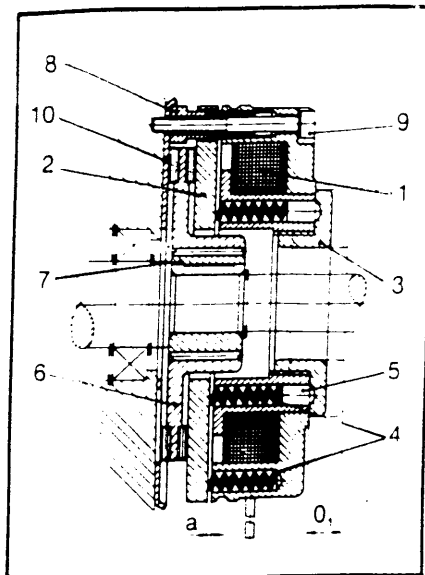
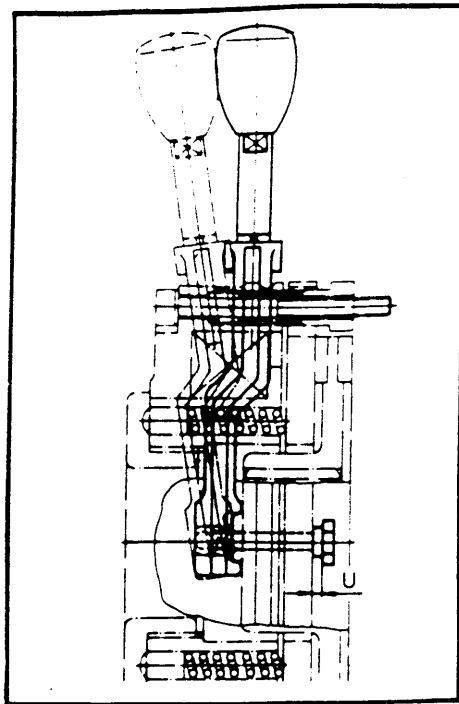

FIGURE 1
FIGURE 3
The Lenze Electromagnetic Release, Spring Set Brake - Type 14.448, as shown in Figure 1, produces its stopping torque by the use of multiple springs (4) exerting pressure against the armature plate (2). The armature plate, in turn, is forced towards the friction plate (8) (or mounting flange (10)) compressing the dual faced friction rotor (6) between the armature plate and the friction plate (or mounting flange). Figure 1 illustrates the position of the armature plate, friction rotor and friction plate in the set position. The rotor is internally splined to the hub (7) which is keyed to the shaft.
8. If necessary, you can check the air gap with a feeler gauge in 3 positions. (NOTE: Air gap dimension is illustrated in Figure 1 denoted by "a").
9. If air gap adjustment is necessary, loosen bolts (9A), rotate the adjustment tubes (8) approximately 1/4 turn, retighten bolts (9A), and measure air gap. If air gap is not within tolerance, repeat procedure.
10. Set the hand release gap (Dimension "U" Figure 3) to the value indicated in Table 3 by tightening nuts (13H). Once set the nut is locked with factory applied thread locking compound. Any change in this setting could interfere with the safe operation of the brake.
The brake is supplied from the factory with the nominal torque settings. This torque can be reduced by unscrewing the torque adjustment ring (3) with a spanner within the limit of the "0," dimension given in Table 1 and depicted in Figure 1. The torque adjuster ring has detent action with torque variation per step given in Table 1.
In most applications, the brake needs practically no maintenance. However, after a long period of operation, or if the brake has a high duty cycle, adjustment of the air gap ('a', Figure 1) may be necessary. When the 'a max' value shown in Table 3 is exceeded, adjust the value back to 'a' using the air gap adjustment instructions described in Section V, step 9 of the assembly instructions.